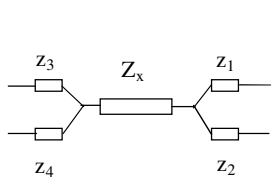

Fig 2a: The quadripolar model.
The quadripolar connection is given in Fig. 2a; two separated pairs of wires are connected:
a) connect any available wire to the testing leads of the LCR-meter. Observe that the adapter connected at the LCR-meter uses 4 terminals, the measurement being quadripolar. Each of the two crocodile clips connects 2 terminals of the LCR-meter at one terminal of the unknown impedance, as seen in Fig. 2a. Write down the value for the resistance of the wire.